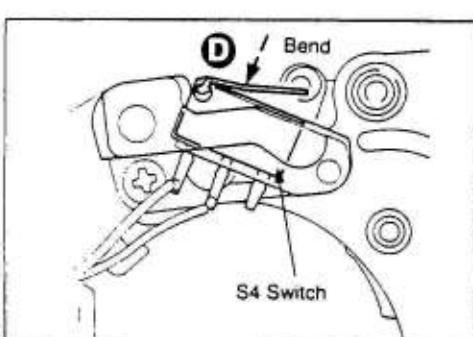

Fig.4
6. If the wind-up stopper lever **A** does not return, bend the contact of the S4 switch to strengthen its bounce ability. (See Fig. 4.)